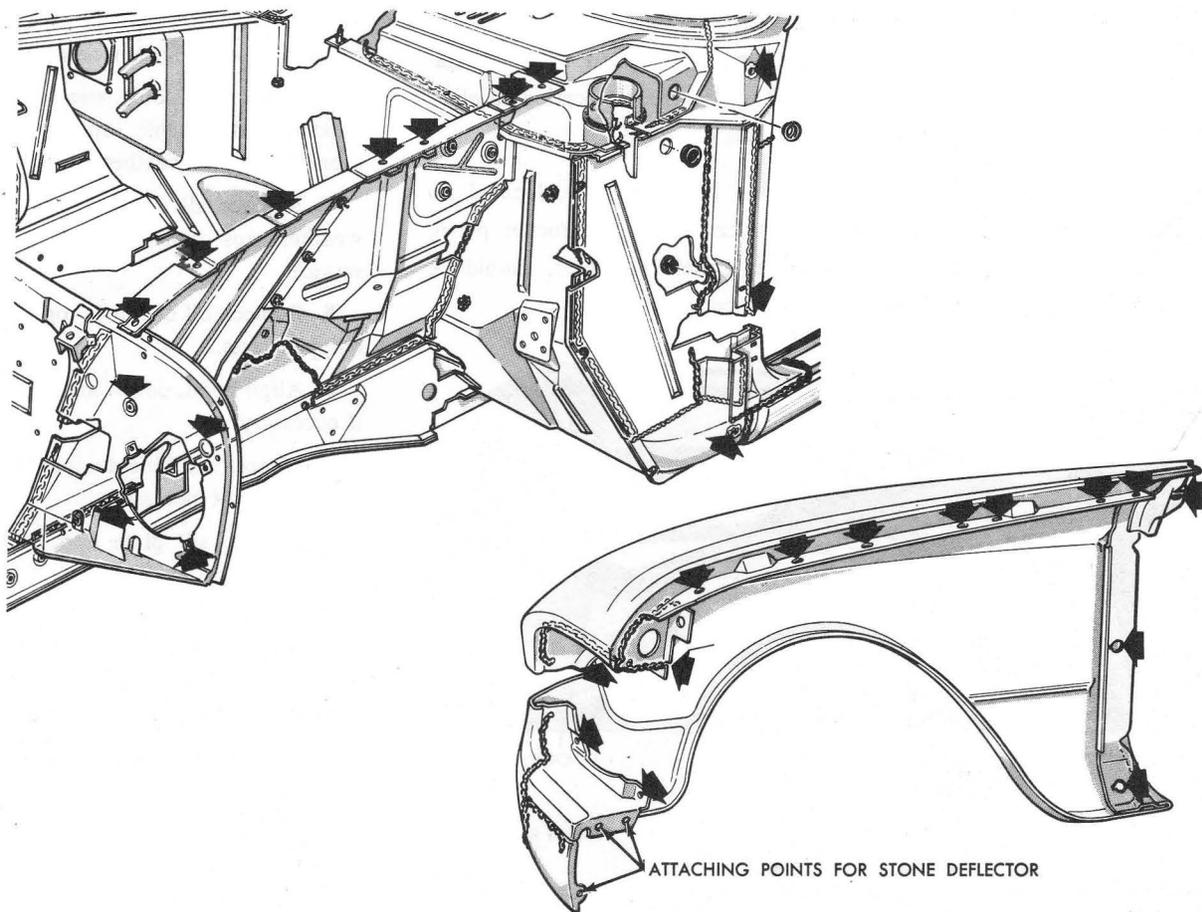

FIG. 4—Front Fender Attaching Points
2. Remove five fender to radiator shroud retaining bolts and three stone deflector to fender bolts (Fig. 4).